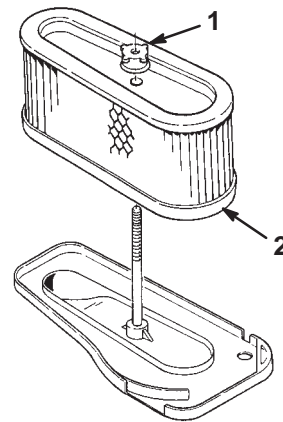

Figure 21
9. Unscrew the rubber nut and carefully remove the paper element (Fig. 21).
2. Screw the rubber nut finger-tight against the air cleaner (Fig. 21).